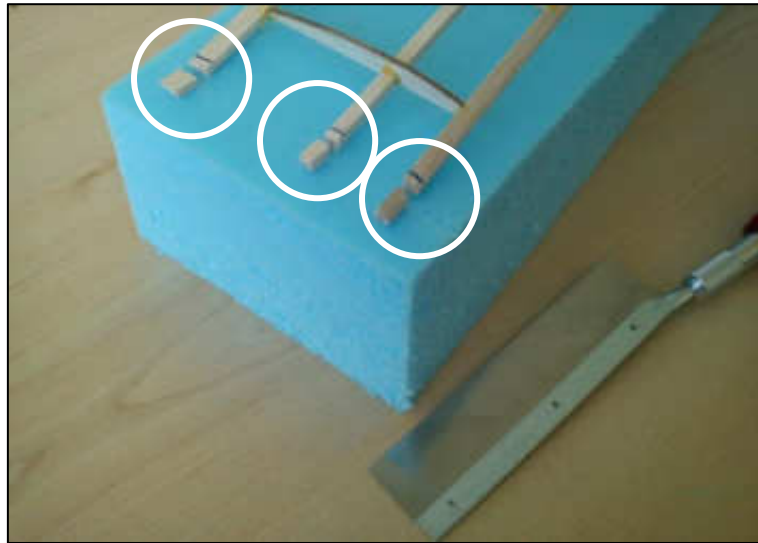

Figure 8: Mark the wing.
8. Use a pen and a ruler to mark the leading and trailing edges and the spar. The marks should be 453.5mm from the wing tip, see Appendix 1. Use a saw to cut most of the excess wood, but ensure that you leave some beyond the mark as shown in Figure 8.